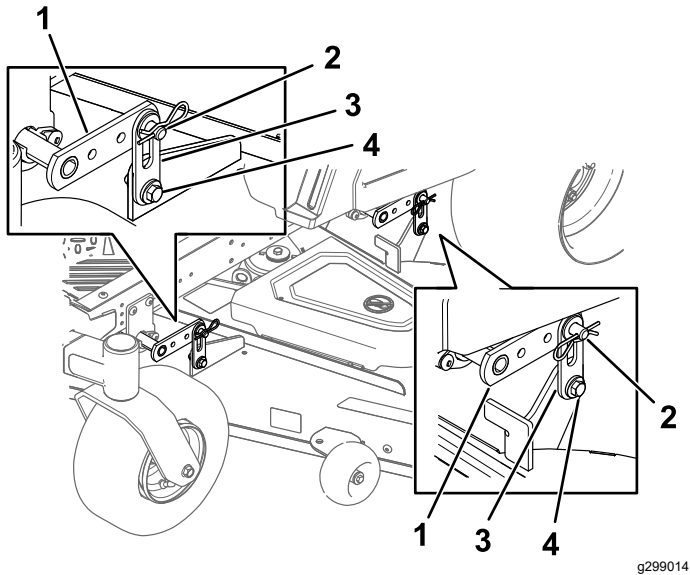

Figure 61
- Loosen the adjustment bolts on all 4 corners so that the deck is sitting securely on all 4 blocks (Figure 61).
- Ensure that the deck pins are at the top of the slot in the deck hangers (Figure 61).
- Tighten the 4 adjustment bolts (Figure 61).